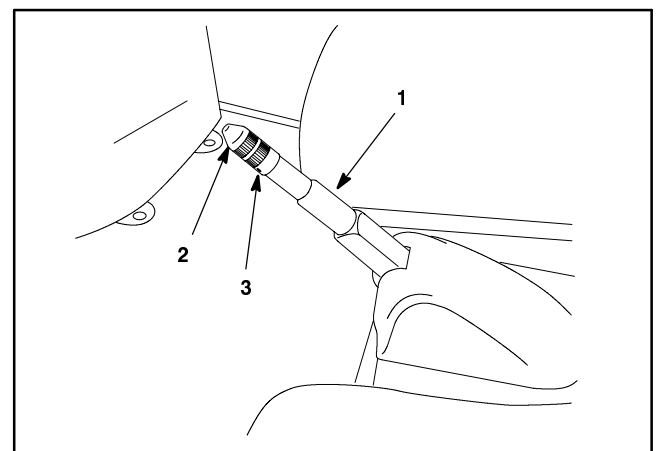

Figure 2
2. Loosen the set screw securing the knob to the parking brake lever (Fig. 2).